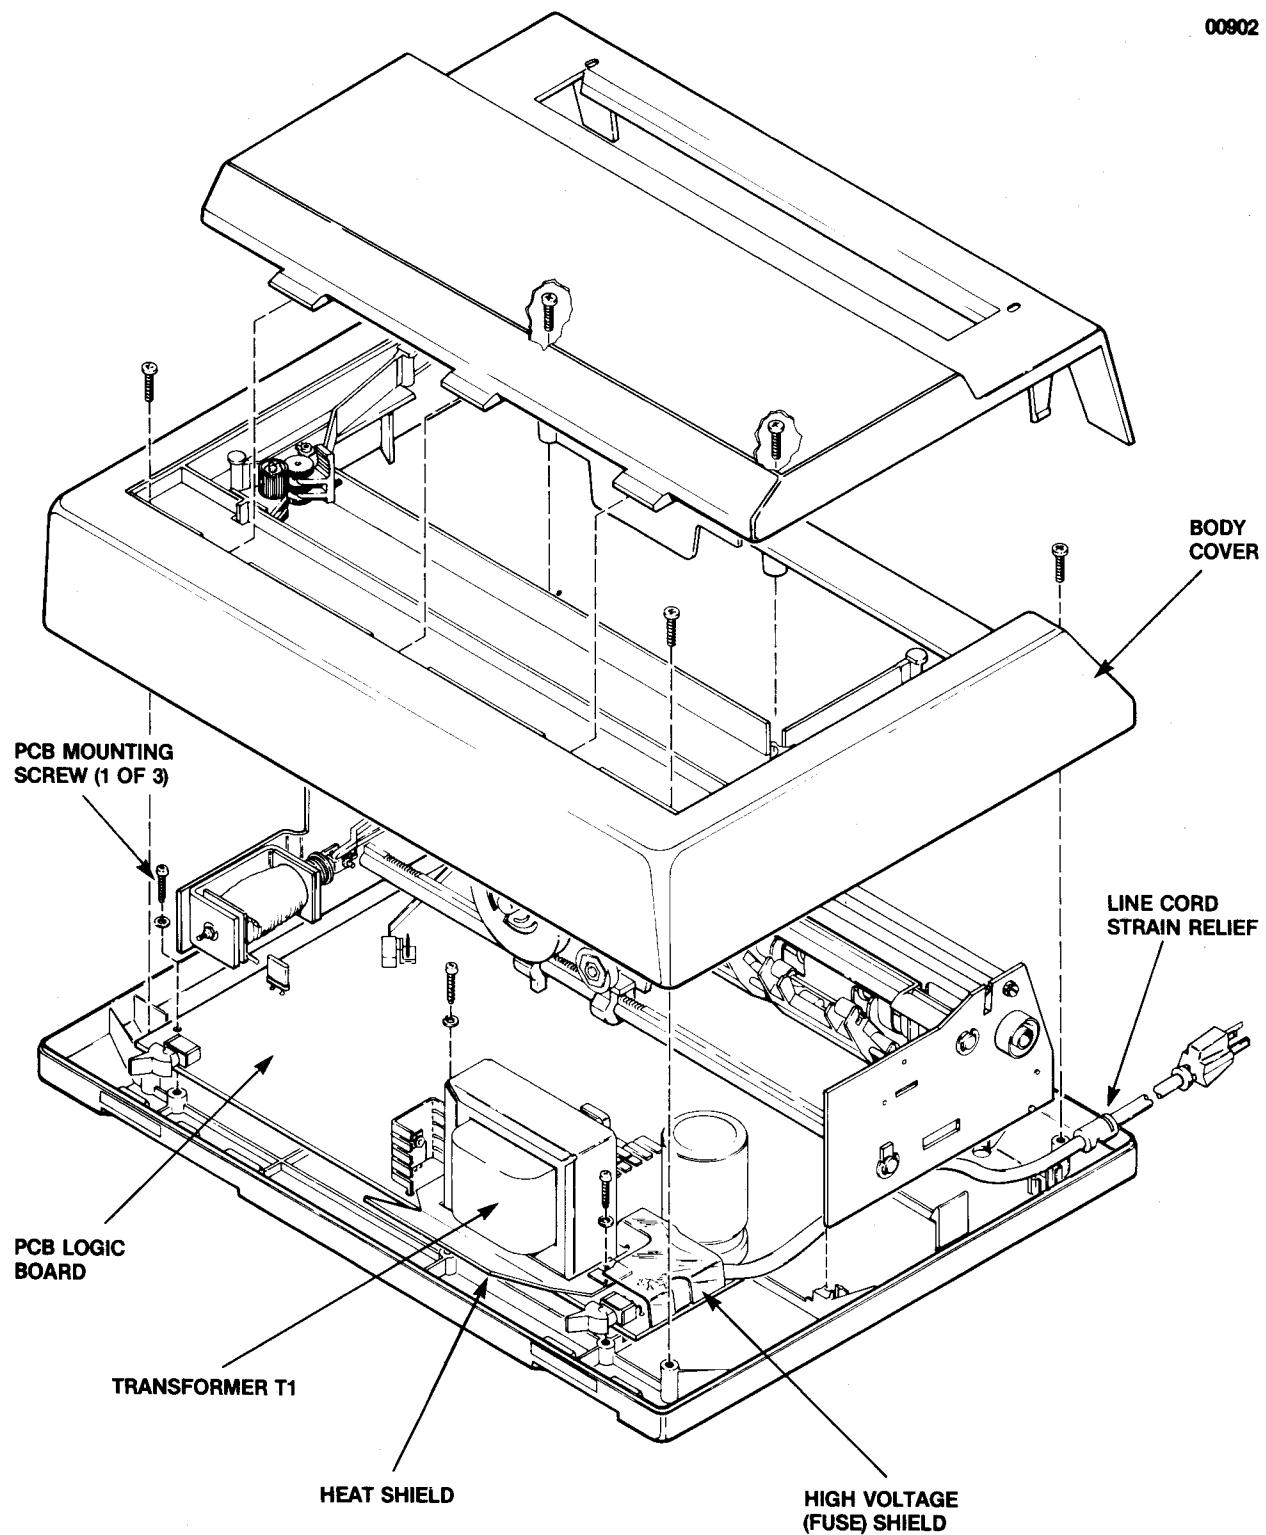

Figure 6-2. LOGIC BOARD REPLACEMENT
6.3 PCB LOGIC BOARD (See Figure 6-2)